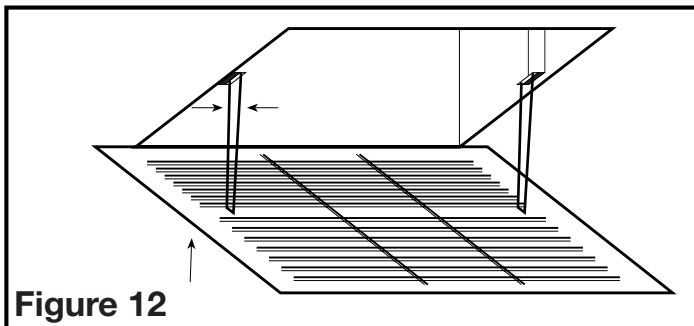

Figure 12
2. **4" Inline Kits:** Install the grill into the inlets by squeezing the two ends of the springs together and installing them up into the slots of the fan. Push the grill up into position (**Figure 12**).